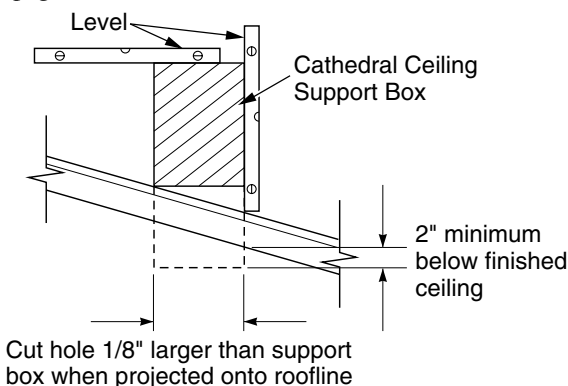

Figure 33 - Cathedral Ceiling Support Box Installation
- Cut the hole 1/8" larger than the support box outline (see Figure 33).
- Lower the support box through the hole in the roof until the bottom of the box extends at least 2" below the ceiling (see Figure 33). Align the support box vertically and horizontally using a level. Temporarily tack the support box in place through the inside walls and into the roof sheathing.